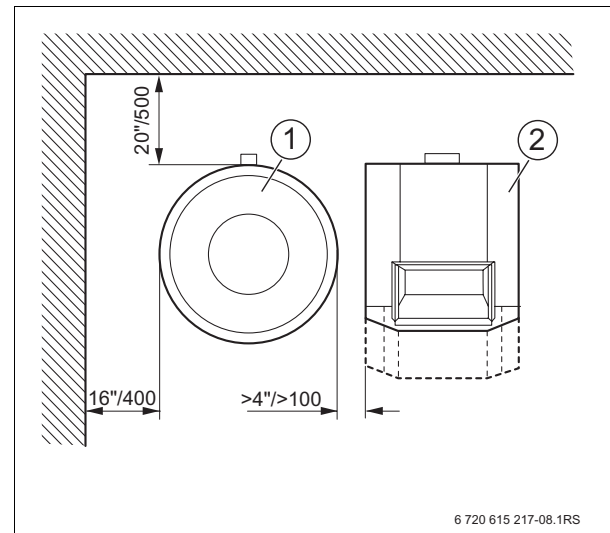

Fig. 6 Recommended minimum clearances (in inch/mm)
- Verify for suitable clearance dimensions by referencing Tab. 1, page 7 and Fig. 6.
- Maintain suggested service access dimensions (→ Fig. 6).